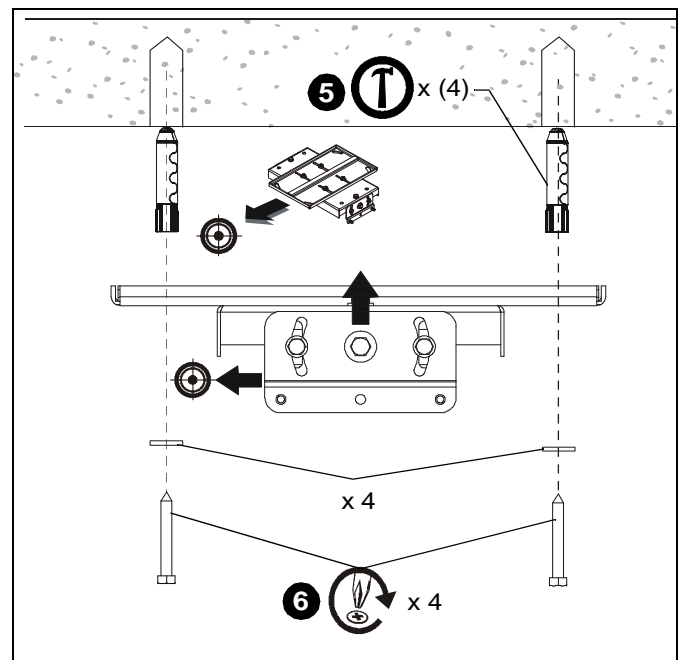

Figure 6
- Install four Fischer UX8 or Toggler AF8 concrete anchors (not included) by inserting into pilot holes and pounding in until flush with mounting surface. (See Figure 6)
- Secure LPK1 with attached VCM (not included) to structure using four 5/16" flat washers (not included) and four 5/16" x 2-1/2" lag bolts (not included). (See Figure 6)